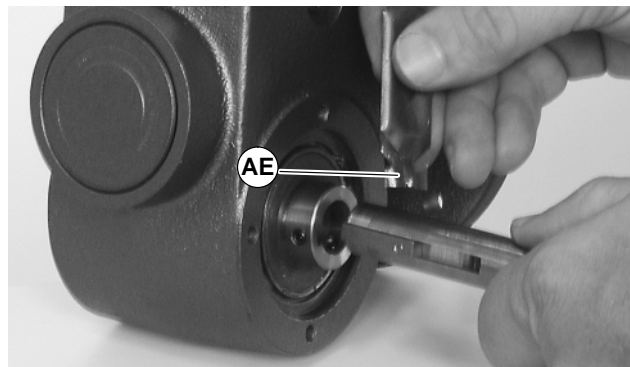

Figure 28
7. Apply grease (AE of Figure 28) to shaft.